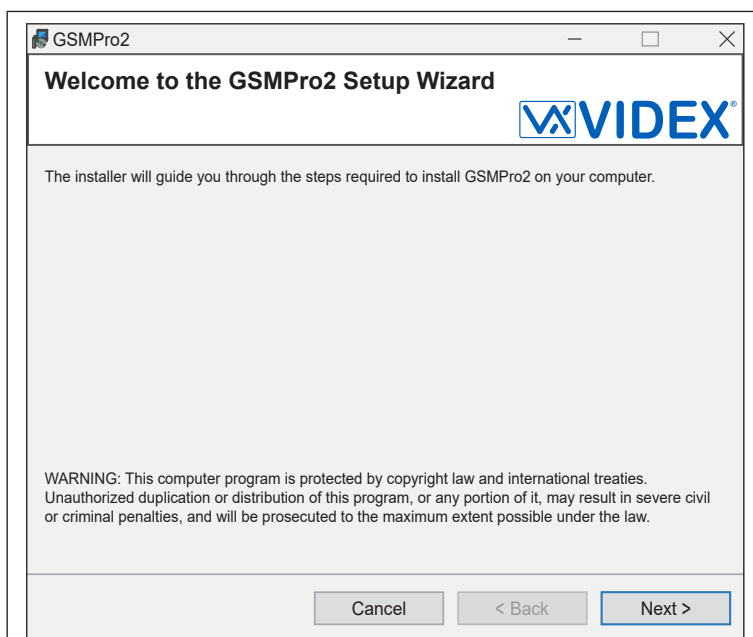

Fig. 1
4. After a brief period the GSMSK setup wizard window will appear, as shown in **Fig.1**.
6. Open your PC's download folder then locate and double click on the '**Setup1.msi**' file, the GSMSK setup wizard window will appear, as shown in **Fig.1**.